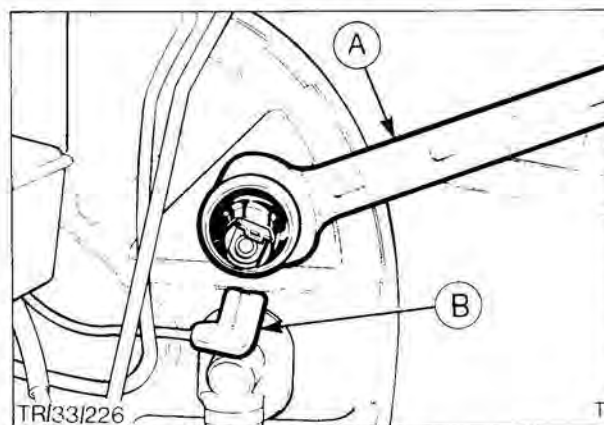

Fig. 30. Unscrew sender unit
3. Unscrew sender unit from servo unit. Fig. 30.